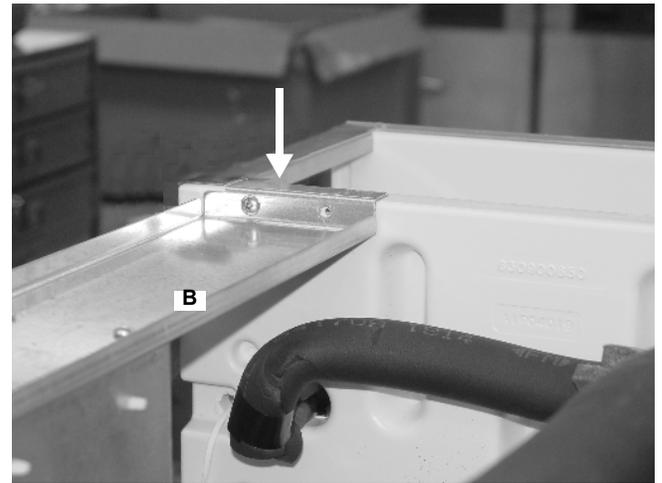

Figure 19.
14. Remove the 2 screws connecting the top support brace (B) to the evaporator bulkhead (Figure 19).